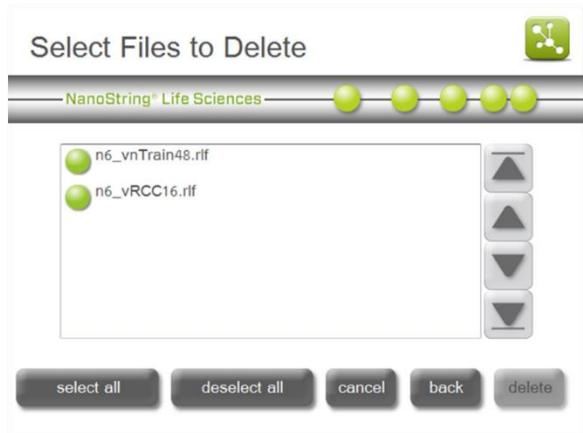

Figure 158: The ‘Select Files to Delete’ screen.
1. To cleanup Reporter Library Files, press **RLF** in the ‘Disk Cleanup’ screen. The ‘Select Files to Delete’ screen will appear (**Figure 158**).